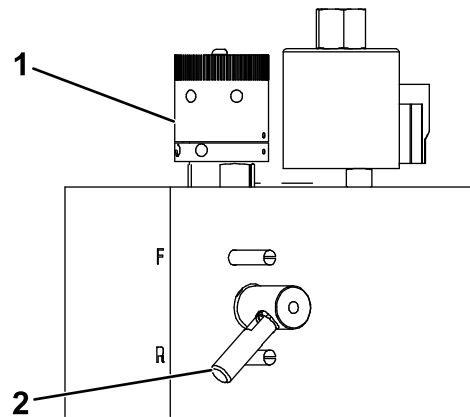

Figure 33
2. Turn the reel speed control knob (Figure 33) to the number setting determined in step 1.